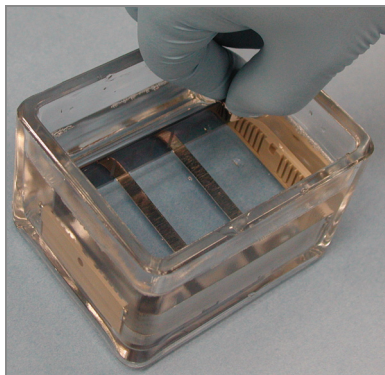

Figure 162 Placing BeadChips in Wash Dish Containing PB1
5. Immediately and carefully slide each BeadChip into the wash rack one at a time, making sure that the BeadChip is completely submerged in the PB1 (Figure 162).